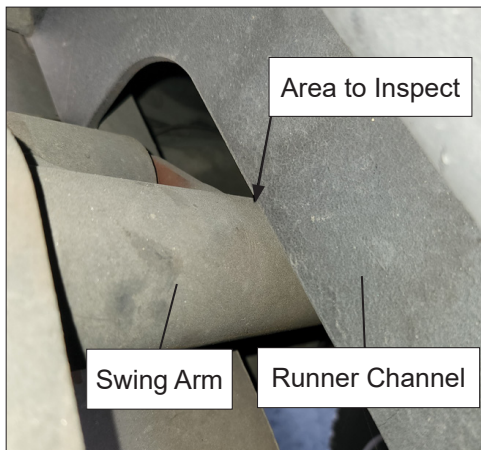

Figure 1 — Inspecting for Interference
2. Using a flashlight if necessary, look into the rear wheel well on the street side and curb side of the unit. Inspect the area where the torsion bar swing arm passes under the long runner channel under the body for visible evidence of interference (refer to Figure 1).